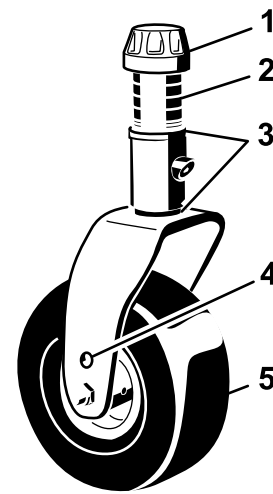

Figure 17
4. Remove the tensioning cap from the spindle shaft and slide the spindle out of the caster arm (Figure 17).